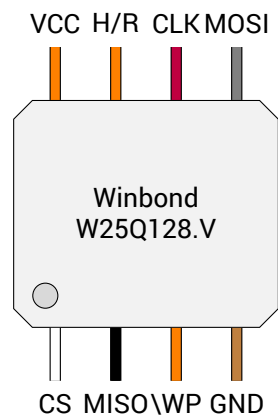

Figure 4: connecting the BusPirate v3.6a with the SPI NOR Flash
Figure 4 shows how to connect the BusPirate v3.6a with the SPI NOR flash chip. Connect the *Chip Select* (CS) pins using the white cable, the *Master In Slave Out* (MISO) pin with the *Data Out* (DO) pin using the black cable, the *Master Out Slave In* (MOSI) pin with the *Data In* (DI) pin using the grey cable and the *Clock* (CLK) pins using the purple cable. Further, the *Ground* (GND) pins should be connected using the brown cable and the 5V and the VCC pins should be connected with the orange cable. In order for the SPI NOR flash chip to function, the H/R pin of the SPI NOR flash chip should be pulled high, this can be done by connecting the 5V pin with the H/R pin. Finally, to be able to program the chip in case write-protection has been configured before, we have to make sure that the *Write-Protect* (WP) is pulled high to disable write-protection.